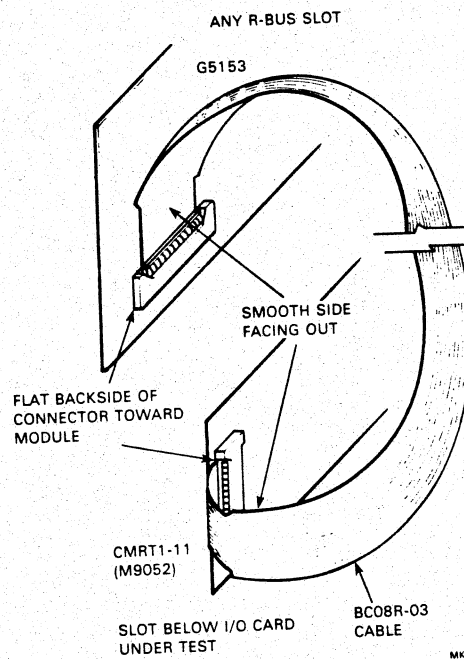

Figure 3-12 BC08R Test Interconnect
- BC08R-03 40 conductor flat ribbon cable 0.9 m (3 feet) used to interconnect the G5153 and CMRTI-11 (see Figure 3-12).